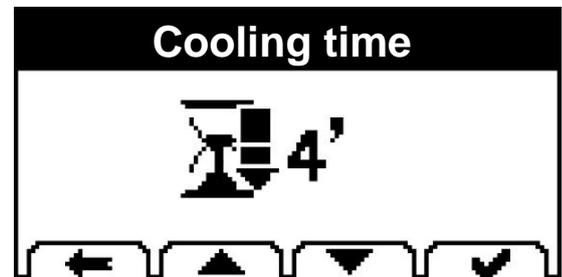

Fig. 5.14
- In **EASY** mode, the system will move on to the cooling stage programming (Fig. 5.14).
- Select the cooling time. Increase or decrease the cooling time with the  and  keys (Fig. 5.14)